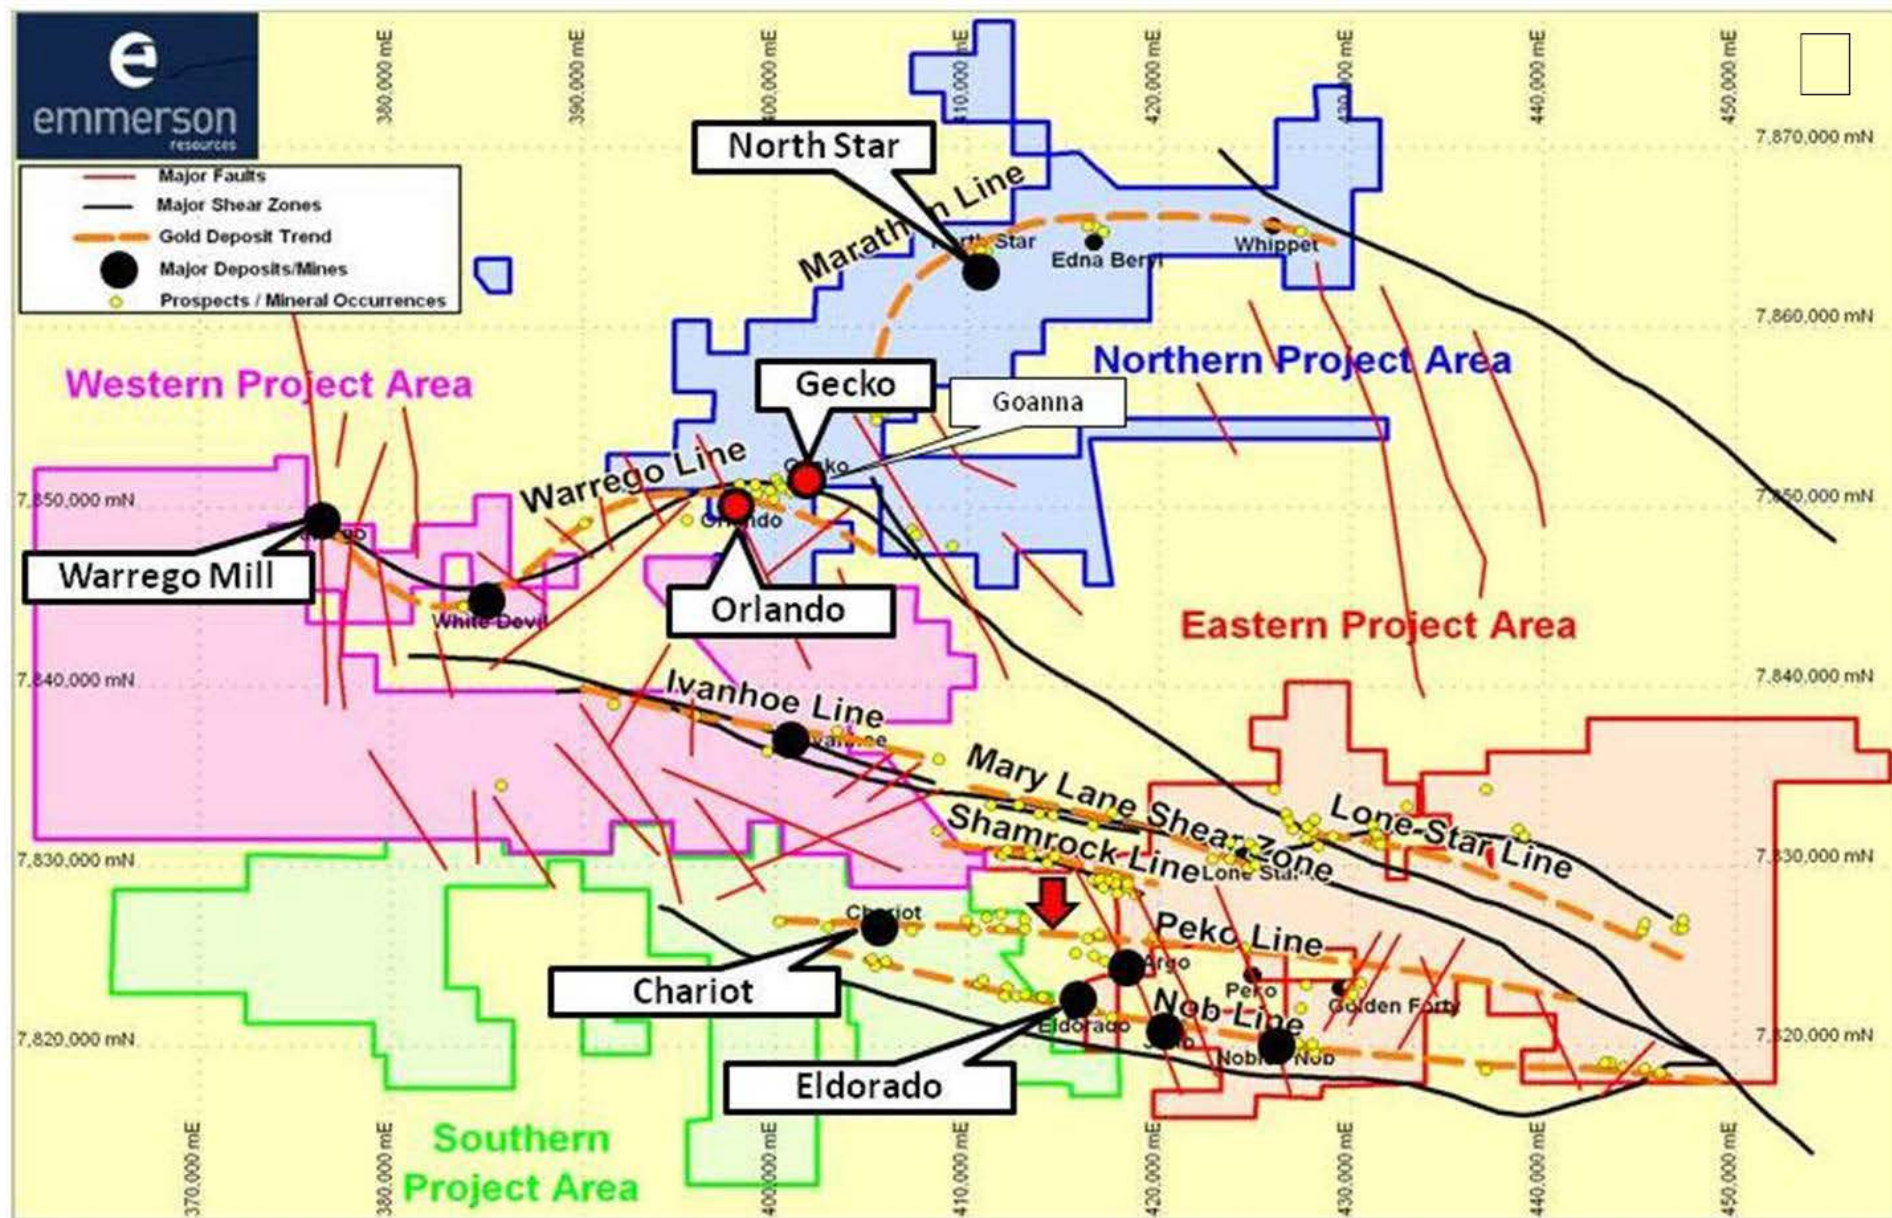

Figure 1: Map showing the Emmerson project areas and the location of Chariot and Eldorado.
*The information in this report which relates to Exploration Results is based on information compiled by Mr Steve Russell BSc, Applied Geology (Hons), MAIG, MSEG. Mr Russell is a Member of the Australian Institute of Geoscientists and has sufficient experience which is relevant to the style of mineralisation and types of deposits under consideration and to the activity which he is undertaking to qualify as a Competent Person as defined in the 2004 edition and the 2012 edition of the Australasian Code for Reporting of Exploration Results, Mineral Resources and Ore Reserves. Mr Russell is a full time employee of the Company and consents to the inclusion in this report of the matters based on his information in the form and context in which it appears (attachments: Figures 1 & 2 and Tables 1 & 2). Mr Russell holds an interest in the following securities in the Company: 387,500 Shares and 225,000 Performance Rights.*